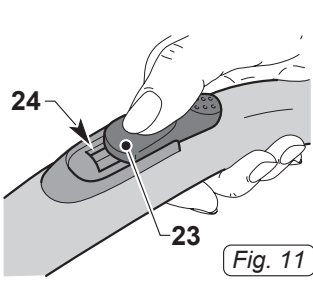

Fig. 11
*For models equipped with ergonomic handle is possible to adjust the suction force, by acting the selector (23 Fig.11).*
*By opening the window (24 Fig.11) you get a lower suction force.*
*For models equipped with ergonomic handle it is possible to adjust the suction force acting the nut (23 Fig.11).*
*By opening the little window (24 Fig.11) you get a lower suction force.*